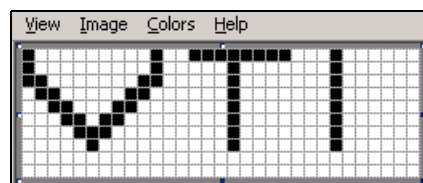

Figure 5-60: Logo Created on Microsoft Paint
- 6 Create the required logo on the page (see Figure 5-60).